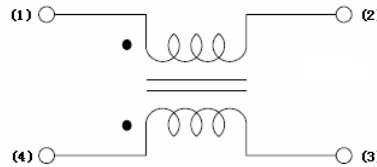

Fig.4-4
4.3 Equivalent circuit: See Fig. 4-4.